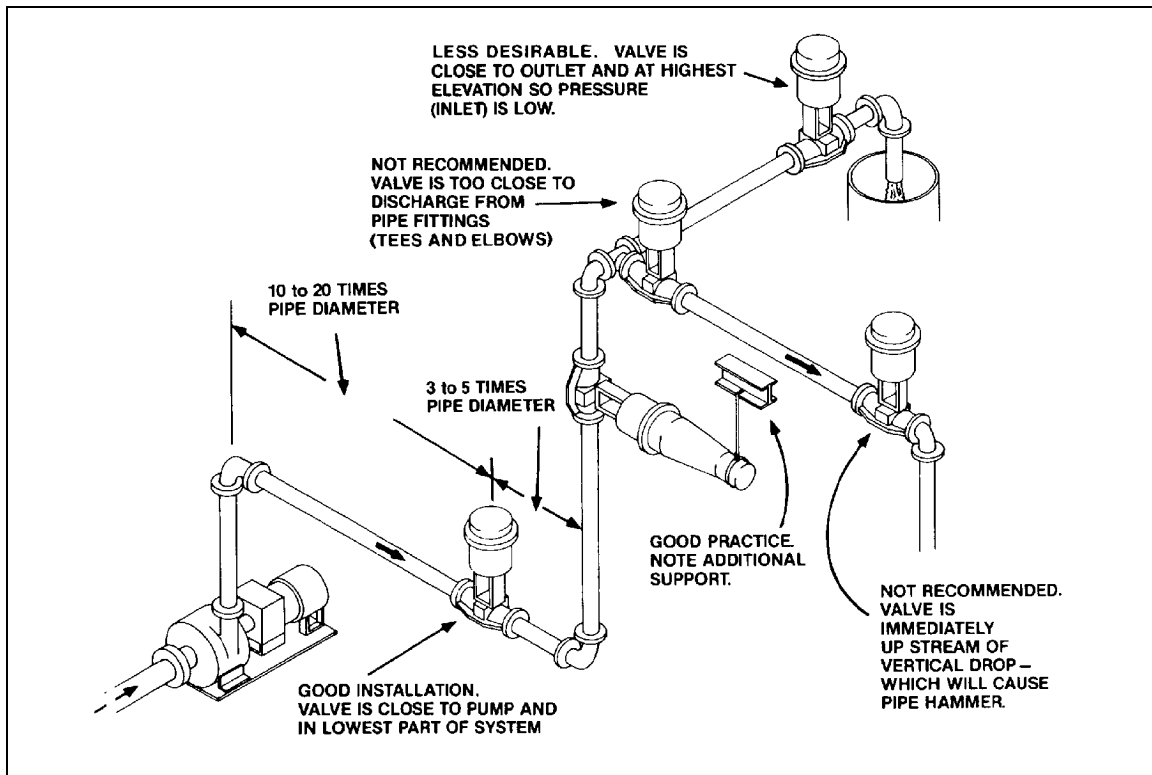

fig 1
- Allow as long a straight run as possible into and out of throttling valves. A good rule of thumb is 10 to 20 pipe diameters up stream, and 3 to 5 pipe diameters down stream. (Refer to Fig. 1)